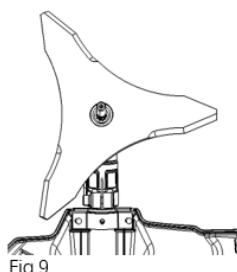

Fig.9
2. Align the disc on the support plate, insert the Allen key #1 into the hole and place the disc on the support plate, align the flange, dust cover and screw the nut with a socket wrench counterclockwise until it is tight enough (Fig.9, 10 and 11)